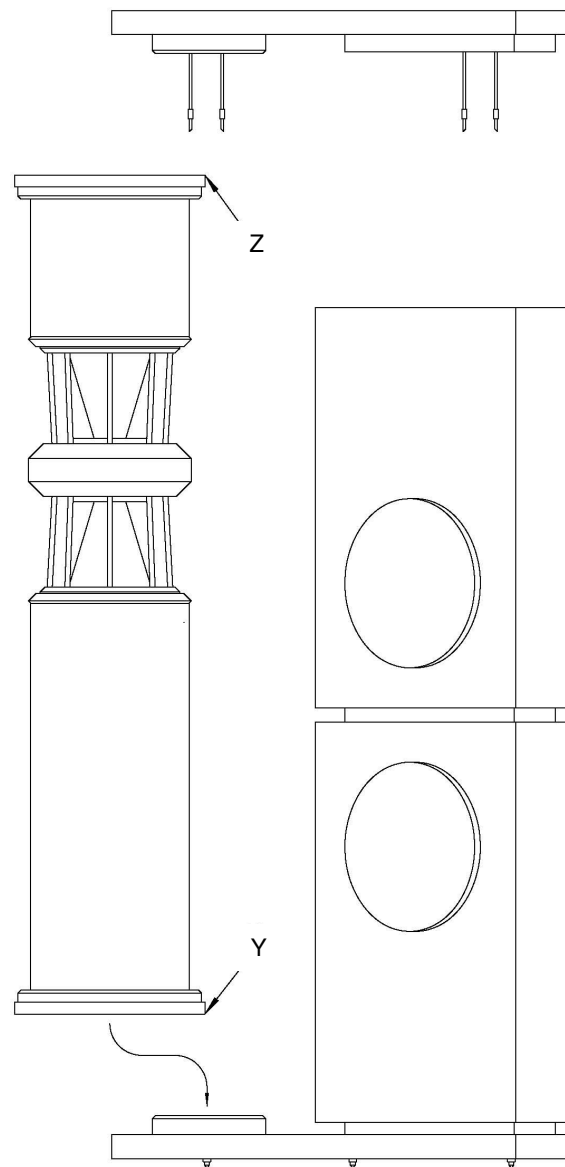

Figure 8. Fitting the DDD Tower and Top Plate
6. Identify the DDD tower. Referring to figure 8, carefully fit the base of the DDD tower, Y, over the locating disc on the bottom plate and ensure that it is sitting squarely. Take great care not to damage the front of the lower bass module with the DDD tower, as there is very little clearance between where the DDD tower fits and the bass module.